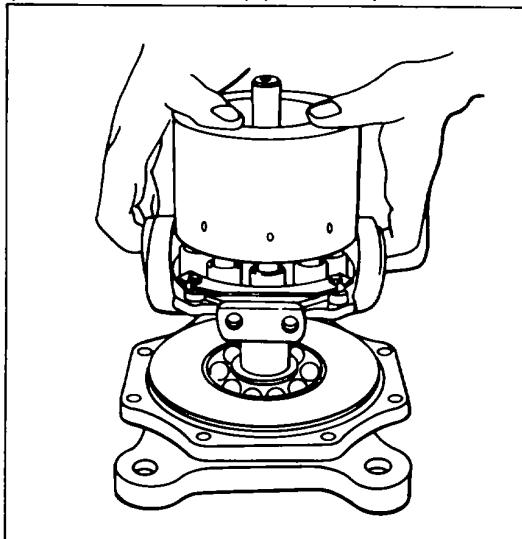
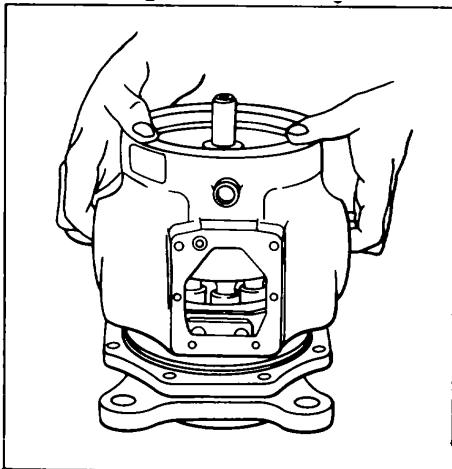

Figure 143.
Figure 144.
18. Lower rotating group consisting of cam, pistons and block assembly over pump shaft (1) and on to mounting flange (2) See Fig. 143) Rotate cam assembly (12) to accept trunnions 17 through holes in the housing 18).
19. Install new O-ring a31 on mounting flange (2). Lower housing 18) carefully over rotating group
and on to flange (2) being carefull not to disturb the assembled, internal parts. See Fig. 144. Install hex nuts (3) and lock washers (4) and torque to 450 in. lbs.